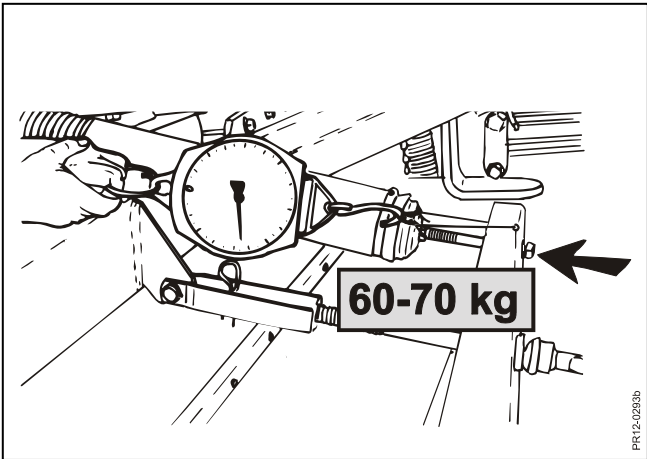

Fig. 3-13
- Fig. 3-13** The counter nut **F** is loosened and the adjustment is made by means of **G**. Start with **approx. 60-70 kg** in each side.